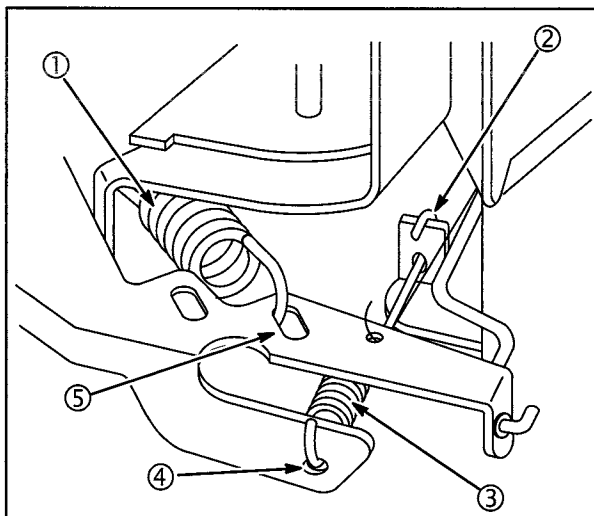

**Fig. 37**
**NOTE:** Be sure the governor spring is installed in #1 hole in governor lever (9), **Fig. 37**.
5. Turn fixed speed adjustable control nut (6) clockwise (8) to increase or counter-clockwise (7) to decrease engine speed until desired Top No-Load RPM is obtained, **Fig. 37**.